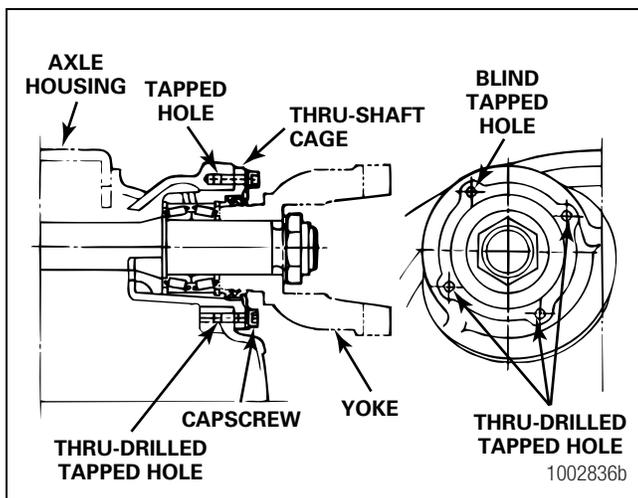

Figure 5.121
9. Apply a 0.25-inch (6 mm) length bead of Loctite® 518 sealant in the thru-drilled tapped holes located at the two, five and eight o'clock positions. Figure 5.121.